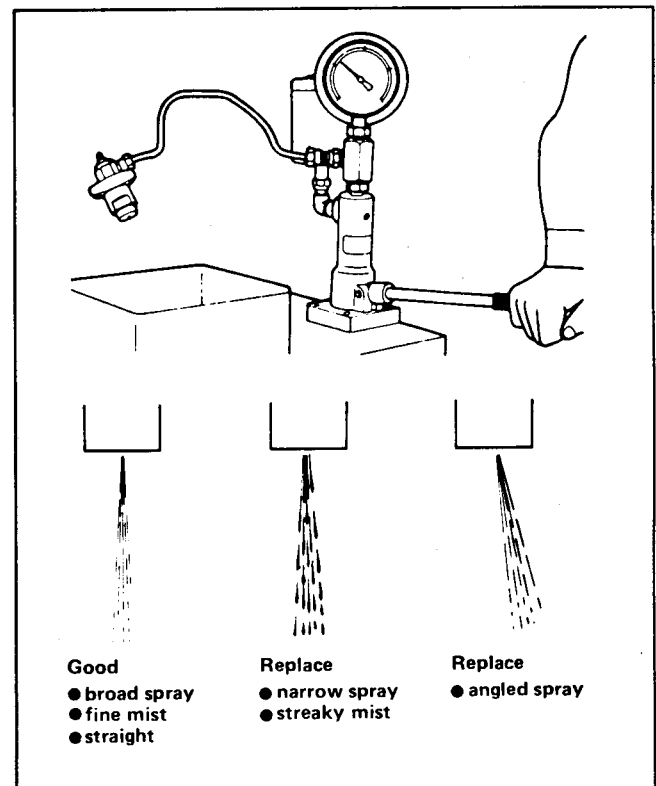

Figure 32
2. Observe the injector nozzle spray. The spray pattern should be finely atomized in a broad, straight stream (Fig. 32).